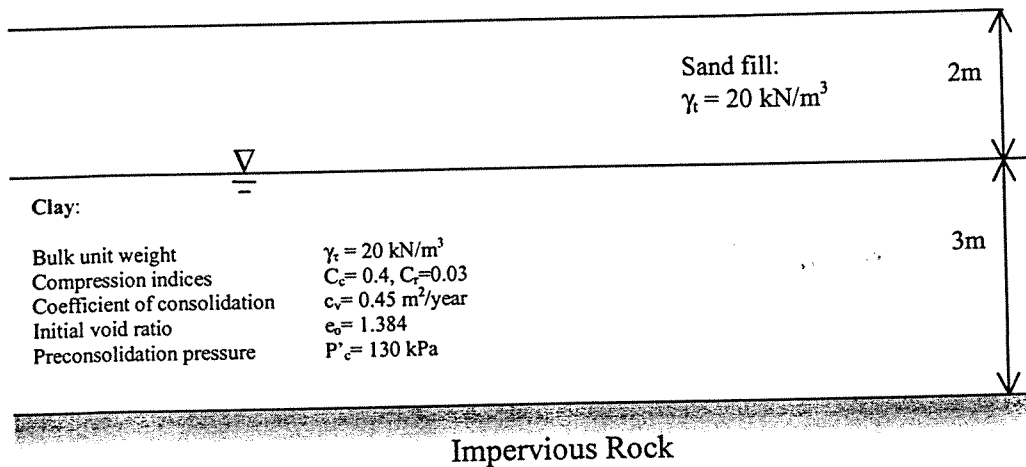

Figure Q.4
4. a. Calculate the consolidation settlement of the 2m layer of fill illustrated on figure Q.4, 1 year after emplacement. (value 15)